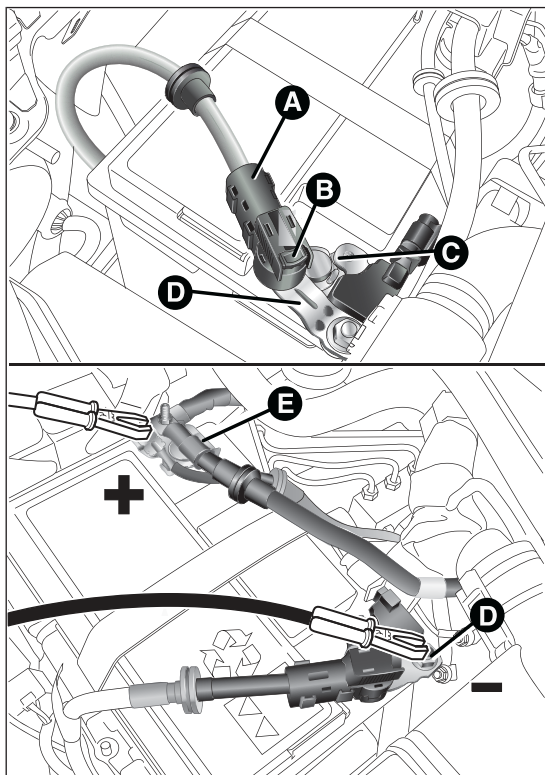

fig. 148
- ☐ disconnect the connector A fig. 148 (pressing the button B) from the sensor C monitoring the battery conditions, on the negative pole D of the battery;
- ☐ after having disconnected the battery charger, reconnect connector A fig. 148 to the sensor C as shown.